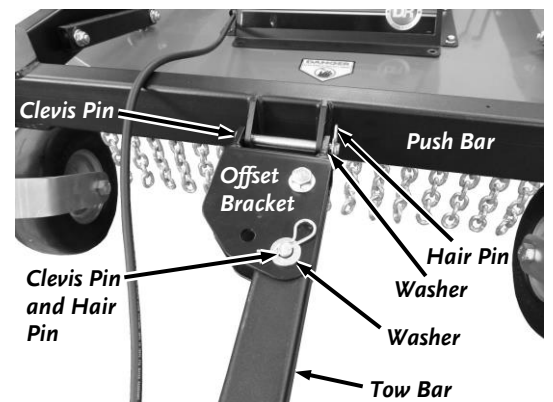

Figure 26
5. Turn the Tow Bar over to position the Offset Bracket for left side offset (**Figure 26**).
10. Remove the Hair Pins, Washers and Clevis Pins that are at the Tow Bar and Tow Bar Extension offsets and reinstall with the Washers and Hair Pins on top (**Figure 26**).